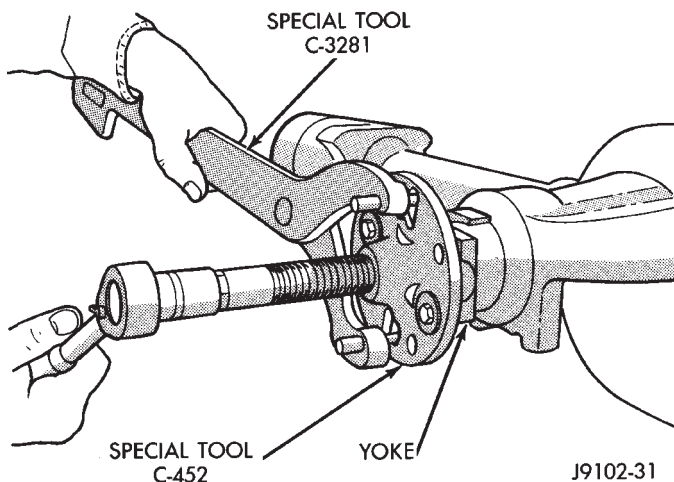

Fig. 12 Pinion Yoke Removal
(1) Raise and support the vehicle.
(2) Remove wheel and tire assemblies.
(3) Remove rear brake drums. Refer to Group 5, Brakes, for proper procedures.
(4) Mark the propeller shaft and pinion yoke for installation reference.
(5) Remove the propeller shaft from the yoke.
(6) Rotate the pinion gear three or four times.
(7) Measure the amount of torque necessary to rotate the pinion gear with a (in. lbs.) dial-type torque wrench. Record the torque reading for installation reference.
(8) Using Holder 6958 to hold the pinion yoke, remove the pinion nut and washer.
(9) Use Remover C-452 and Wrench C-3281 to remove the pinion yoke (Fig. 12).
(10) Use a suitable pry tool or a slide hammer mounted screw to remove the pinion shaft seal.
(11) Remove the front pinion bearing using a pair of suitable pick tools to pull the bearing straight off the pinion gear shaft. It may be necessary to lightly tap the end of the pinion gear with a rawhide or rubber mallet if the bearing becomes bound on the pinion shaft.
(12) Remove the collapsible spacer.
(8) Remove differential assembly from axle housing.
(9) Using Holder 6958 to hold yoke, remove the pinion yoke nut and washer.
(10) Using Remover C-452 and Wrench C-3281, remove the pinion yoke from pinion shaft (Fig. 12).